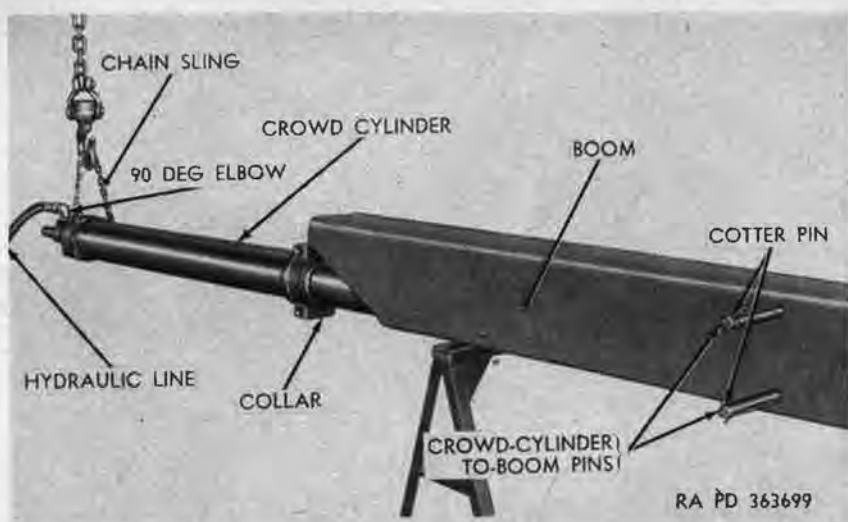

Figure 306. Removing boom crowd cylinder from boom M62 and M246.
- (6) Pull boom from shipper, place boom on suitable supports, and remove hoist and chain sling.
- (7) Remove cotter pins (fig. 306) and crowd-cylinder-to-boom pins securing crowd-cylinder collar to boom, and pull cylinder from boom far enough to permit attaching a chain sling.
- (8) Attach chain sling (fig. 306) and overhead hoisting equipment to crowd cylinder, and remove cylinder from boom.
- (9) Remove 90° elbow (fig. 306) with hydraulic line attached from crowd cylinder.
- (1) Install 90° elbow (fig. 306) with hydraulic line attached in port on top of crowd-cylinder head.
- (2) Supporting crowd cylinder with chain sling (fig. 306) and overhead hoisting equipment, slide cylinder into position inside boom. Remove hoist and chain sling.
- (3) Align holes in crowd-cylinder collar (fig. 306) with holes in sides of boom, and install the two crowd-cylinder-to-boom pins. Secure pins with two cotter pins.